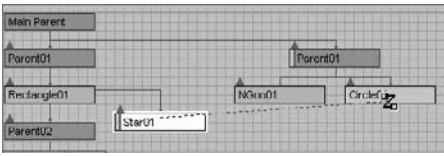

Figure 3.49
2. Unlink the Star object from the Mobile and relink it to the Circle object. To do this, click the Connect button and then select the Star01 node and drag it to the Circle01 node, as shown in Figure 3.49.